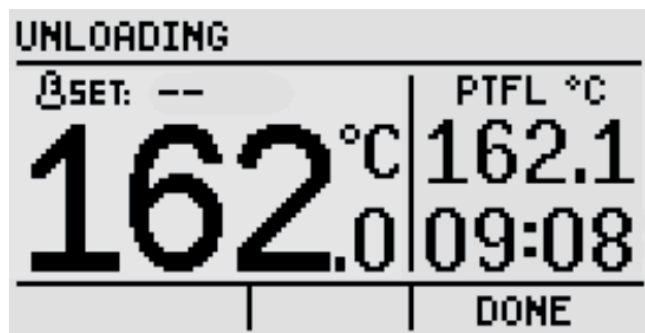

Fig. 28
6. A screen according to Fig. 28 is shown at the unloading side.